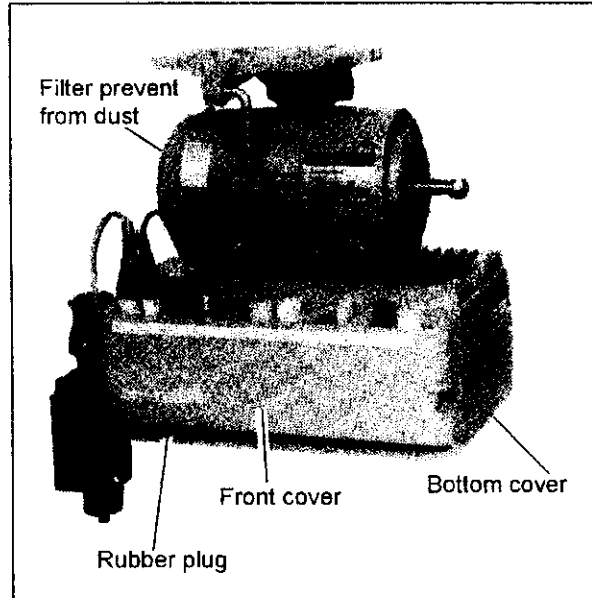

Fig.16
15. Handling instructions (Motor and control box) (Fig.16):
- 8) When manipulating the switch in the control box, first turn off the power switch, then open the front cover (Fig.16). If you have to open the bottom cover, wait for 10 minutes after the power switch has been turned off, since a high voltage is applied inside the box. (This is vital to discharge the built-in capacitors).